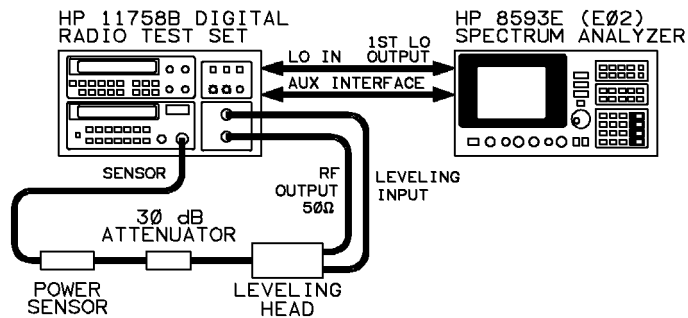

Figure 2-7. RF Source Verification Check Setup
1. Connect the equipment as shown in Figure 2-7.